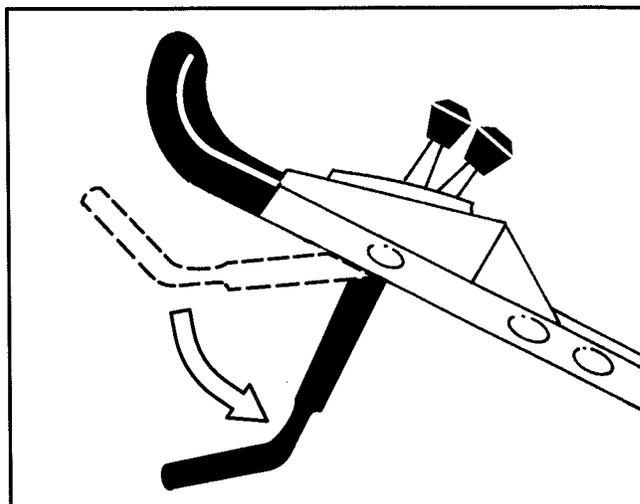

Figure 15
2. Push the control bar down to its lowest position (Fig. 15).